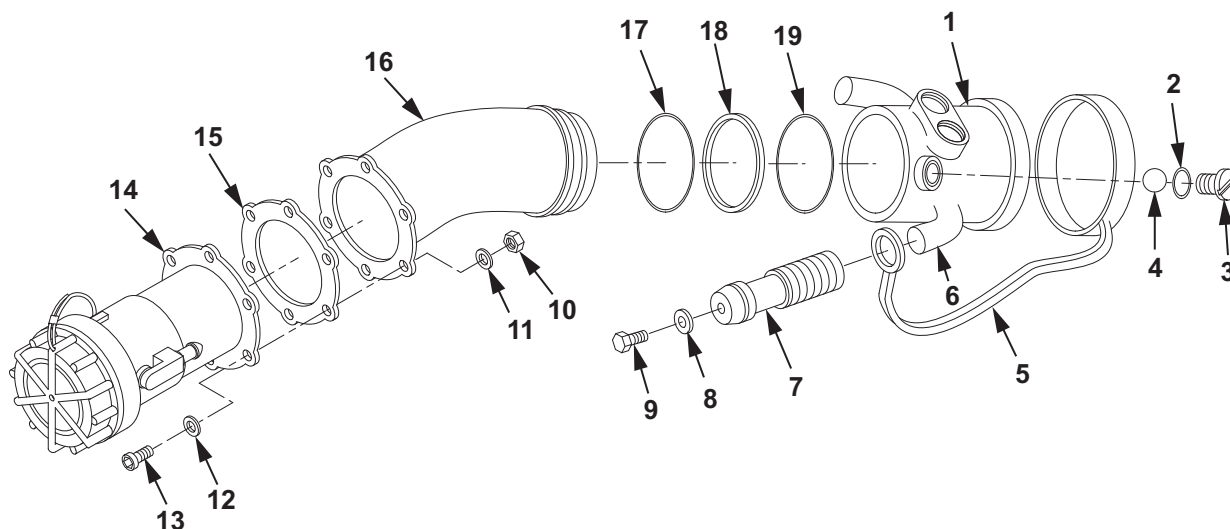

Figure 2. D1 Nozzle Assembly.
If it was necessary to replace dust cap (Figure 2, Item 5), perform steps 1–4.
1. Install dust cap (Figure 2, Item 5) on fuel nozzle handle (Figure 2, Item 6).
2. Position grip handle (Figure 2, Item 7) on fuel nozzle handle (Figure 2, Item 6).
3. Position washer (Figure 2, Item 8) and screw (Figure 2, Item 9) on grip handle (Figure 2, Item 7).
4. Using a torque wrench, torque screw (Figure 2, Item 9) to 6.5 in. lb (0.73 N•m).
5. Lightly lubricate new O-ring (Figure 2, Item 19) with petrolatum and install in internal groove of the fuel nozzle body (Figure 2, Item 1).
6. Install wear ring (Figure 2, Item 17) in inside groove of inlet elbow (Figure 2, Item 16).
7. Install new seal (Figure 2, Item 18) on inlet elbow (Figure 2, Item 16).
8. Install inlet elbow (Figure 2, Item 16) into fuel nozzle body (Figure 2, Item 1).
Ensure all 39 ball bearings (Figure 2, Item 4) are accounted for before assembly.
9. Hold fuel nozzle body (Figure 2, Item 1) over cleaning cloth with screw hole up and insert ball bearings (Figure 2, Item 4) into hole.
10. Lightly lubricate new O-ring (Figure 2, Item 2) with petrolatum and install on screw (Figure 2, Item 3).
11. Install screw (Figure 2, Item 3) into fuel nozzle body (Figure 2, Item 1).
12. Using torque wrench, torque screw (Figure 2, Item 3) to 9.5 in. lb (1.07 N•m).
13. Install new gasket (Figure 2, Item 15) on inlet elbow (Figure 2, Item 16).
14. Install quick disconnect coupling half (Figure 2, Item 14) on inlet elbow (Figure 2, Item 16).
15. Install new locknuts (Figure 2, Item 10), washers (Figure 2, Item 11), screws (Figure 2, Item 13) and washers (Figure 2, Item 12) to attach quick disconnect coupling half (Figure 2, Item 14) to inlet elbow (Figure 2, Item 16).